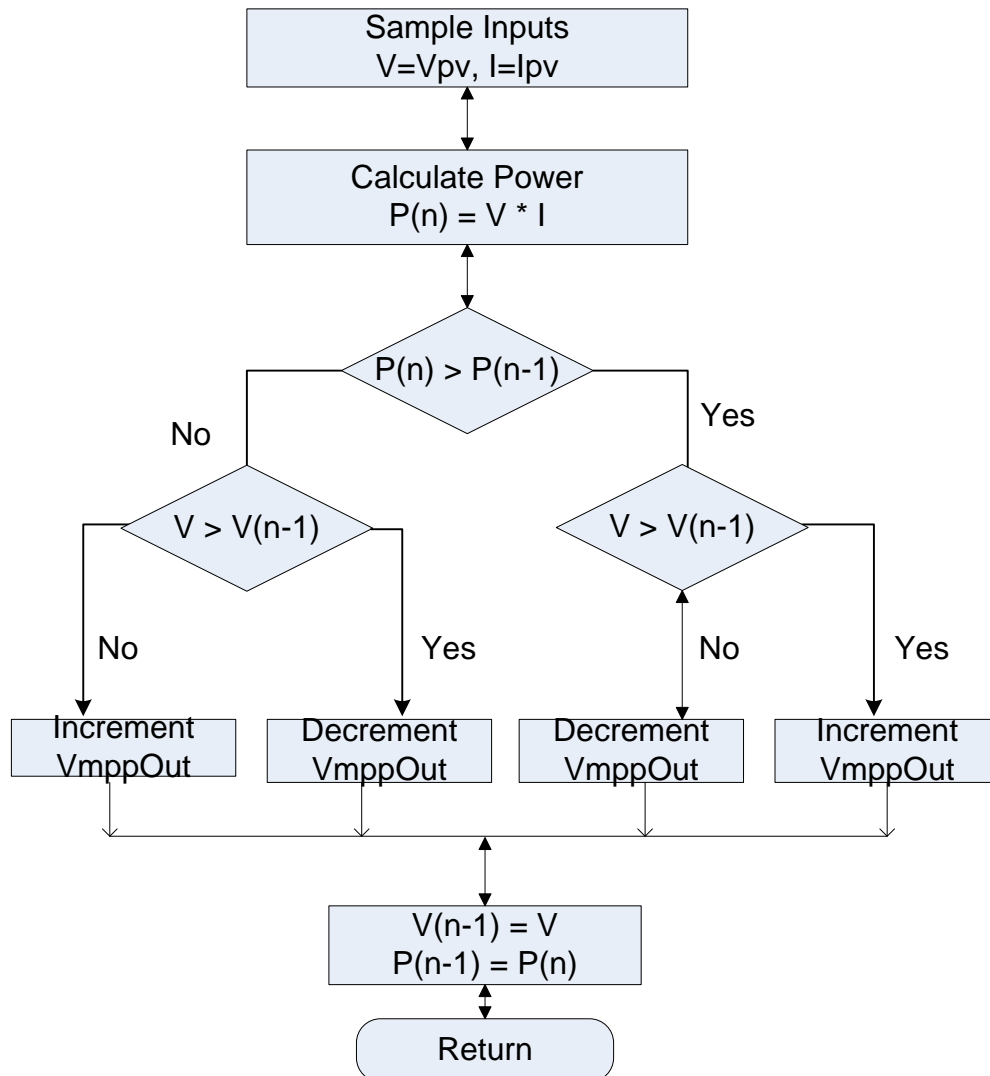

Figure 3 Perturb & Observe Algorithm Flowchart for MPPT
**Technical:** Tracking for Maximum power point is an essential part of PV system implementation. Several MPP tracking methods have been implemented and documented for PV systems. This software module implements a very widely used MPP tracking method called “Perturb and Observe” algorithm. MPPT is achieved by regulating the Panel Voltage at the desired reference value. This reference is commanded by the MPPT P&O algorithm. The P&O algorithm keeps on incrementing and decrementing the panel voltage to observe power drawn change. First a perturbation to the panel reference is applied in one direction and power observed, if the power increases same direction is chosen for the next perturbation whereas if power decreases the perturbation direction is reversed. For example when operating on the left of the MPP (i.e.  $V_{pvRef} < V_{pv\_mpp}$ ) increasing the  $V_{pvRef}$  increases the power. Whereas when on the right of the MPP ( $V_{pvRef} > V_{pv\_mpp}$ ) increasing the  $V_{pvRef}$  decreases the power drawn from the panel. In Perturb and Observe (P&O) method the  $V_{pvRef}$  is perturbed periodically until MPP is reached. The system then oscillates about the MPP. The oscillation can be minimized by reducing the perturbation step size. However, a smaller perturbation size slows down the MPPT in case of changing lighting conditions. Figure 3 illustrates the complete flowchart for the P&O MPPT algorithm